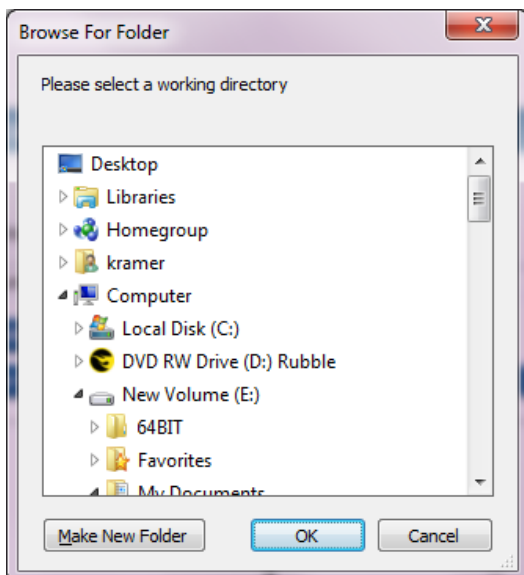

Figure 15: Change the Working Directory Window
12. Select or create a new working directory (see Figure 15).